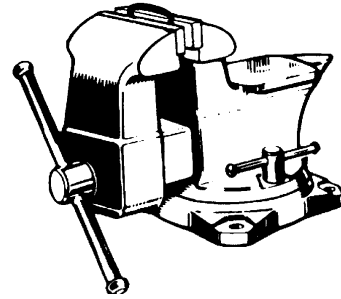

Figure 6
1. Insert one link lengthwise into a vise (Figure 6). Be sure that the side opposite the weld lies completely below surface of vise jaw (about 1/3 of a link). This prevents nicking or cutting the lower part of the link.